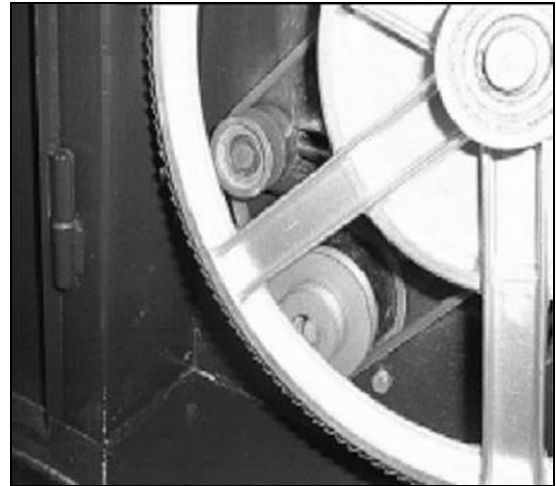

**Fig 28**
The lower bandwheel (C, Fig 28) has two Poly-V pulleys, the motor has a Twin-Poly-V pulley (D).